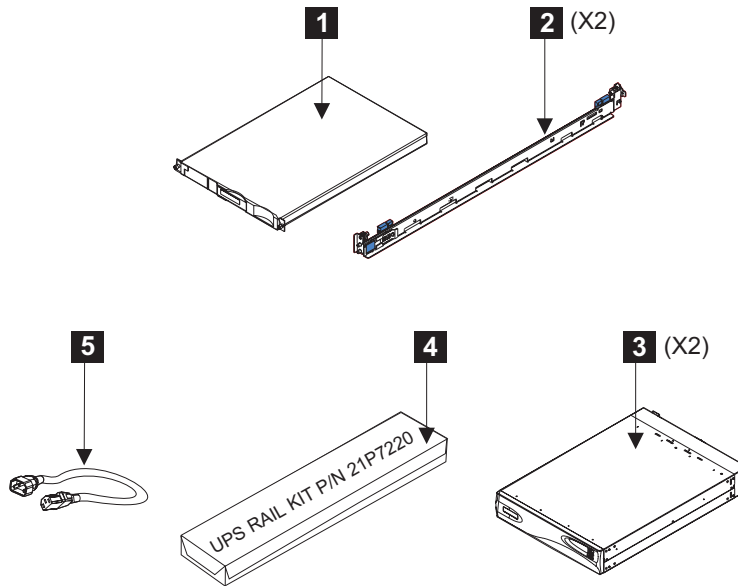

Figure 18. Items for installation in the rack
1. Check all the parts and quantities against the items shown in Figure 18 on page 20. If any item is missing, contact your marketing representative.